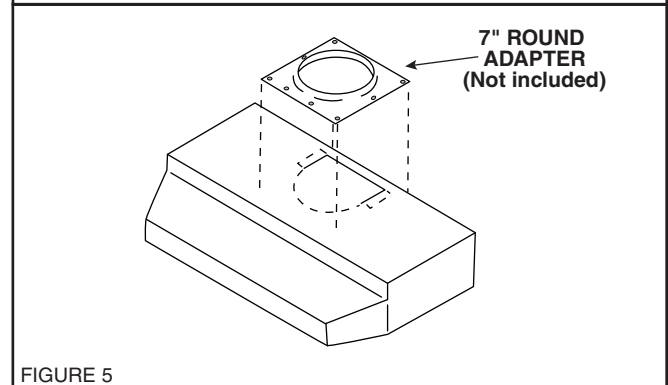
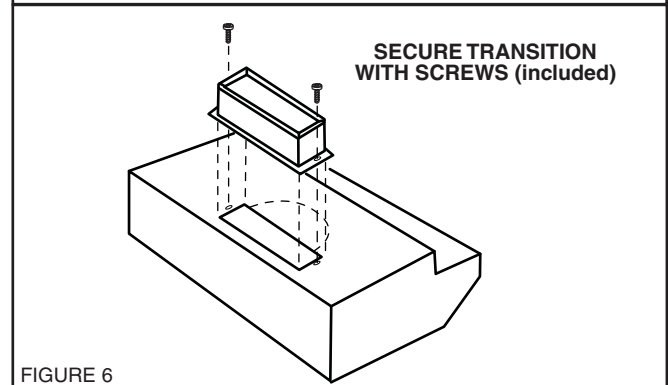
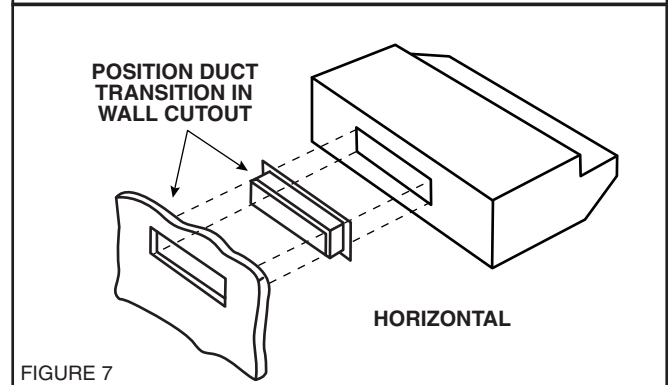

FIGURE 5
FIGURE 6
FIGURE 7
1. Refer to Figure 6 for a vertical discharge installation. Secure the 3 1/4" x 10" transition (if used) to top of hood. Refer to Figure 7 for a horizontal discharge installation. If using the supplied 3 1/4" x 10" duct transition, remove the damper from the transition to prevent possible venting interference. Position transition into wall cutout (the transition does not fasten to the hood). Refer to Figure 5 for 7" round discharge installation. Secure 7" round adaptor to top of hood using screws provided.
3. Align hood's keyhole mounting slots over the four (4) partially installed screws.